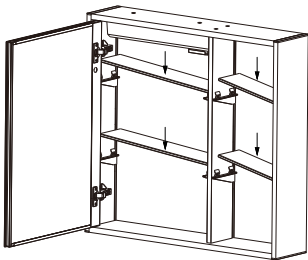

Fig.8
2.5 put the glass shelf on the one of the clip, and push gently the glass shelf on the other clip(as arrow)(Fig.8).